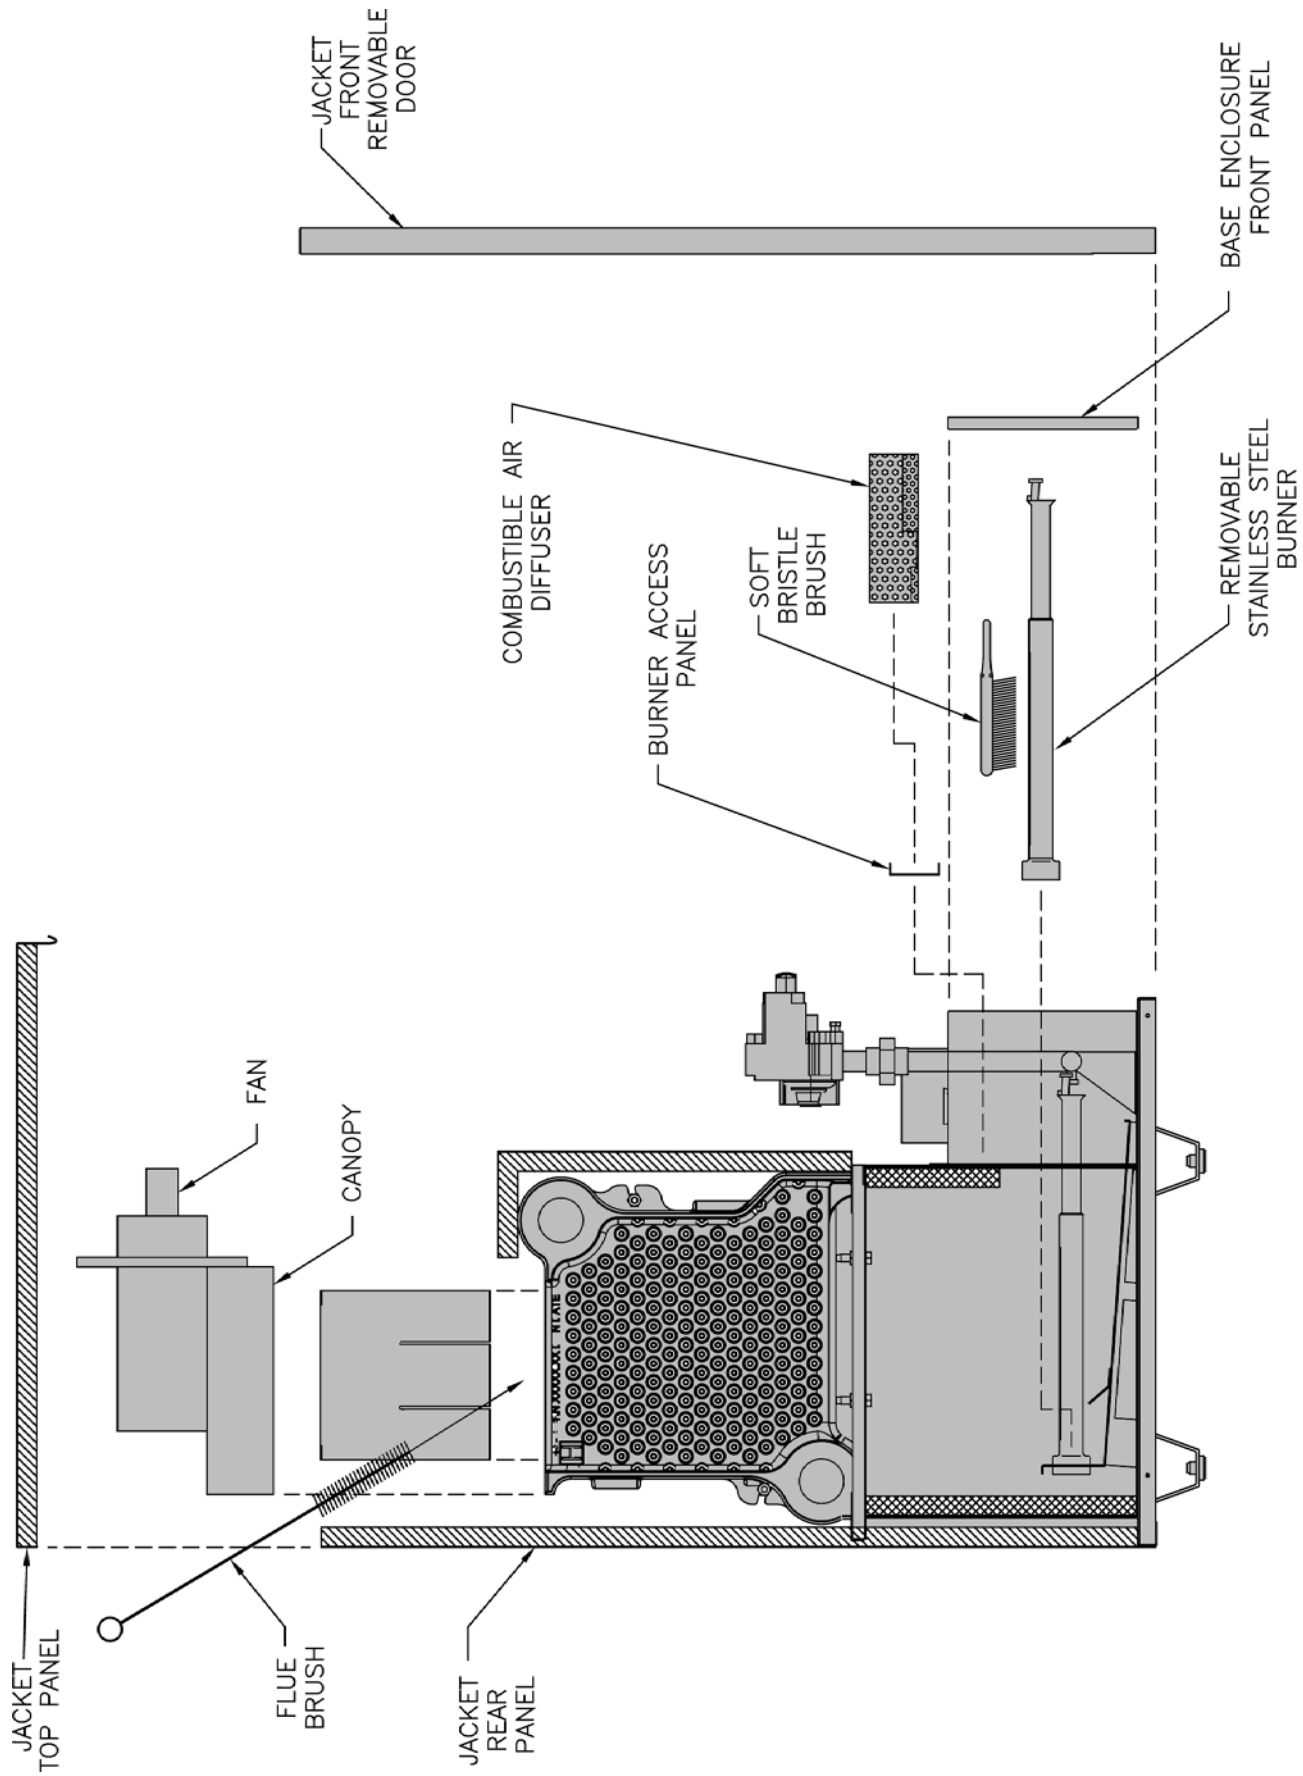

Figure 42: Flue and Burner Cleanout, 1" Burner
1. Remove Main Burners. See Figure 42.
- a. Loosen the (4) screws from Canopy.
8. Inspect flue passages. Clean with flue brush. See Figure 42.
2. Clean main burners. Brush top of burners with soft bristle brush. See Figure 42. Vacuum to remove any dirt and lint.
- b. Main burners must be properly secured in burner tray slot at rear of firebox and over gas orifice. See Figure 42.